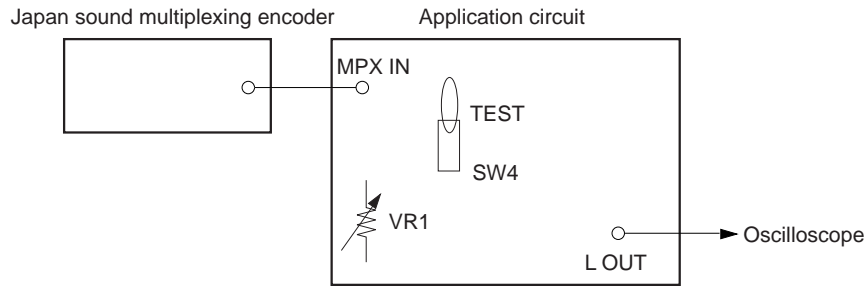

**Fig. 1**
- 1) Connect as shown in Fig. 1